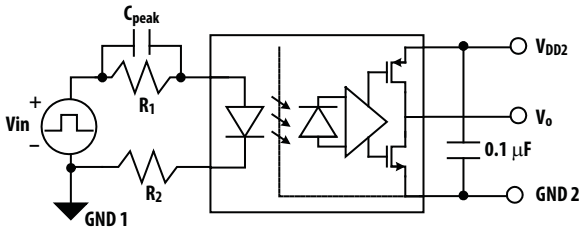
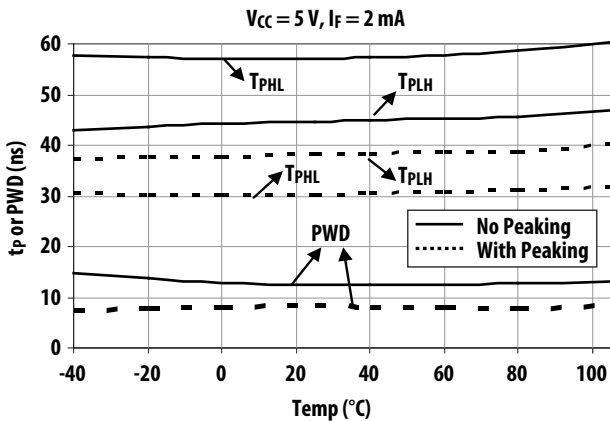

Figure 4. Connection of peaking capacitor (C_{peak}) in parallel of the input limiting resistor ($R1$) to improve speed performance
Figure 5. Improvement of t_p and PWD with the addition of a 47pF peaking capacitor.
A peaking capacitor placed across the input current-limit resistor (Figure 4) enhances speed performance. The value of the peaking capacitor is dependent upon the rise and fall time of the input signal and supply voltages and the LED input driving current (IF). Figure 5 shows the significant improvement of propagation delay and pulse width distortion (PWD) achieved by adding a peaking capacitor with a driving current of 2mA and a 3.3V/5V power supply.